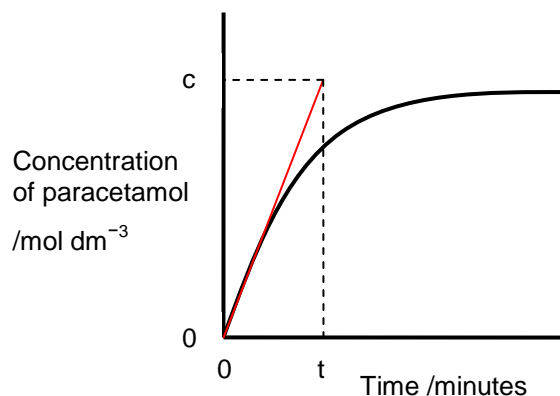

Figure 4 Initial rate of permeation = $\frac{c}{t} \text{ mol dm}^{-3} \text{ min}^{-1}$
2. calculate the gradient of the straight line or the gradient (figure 4).